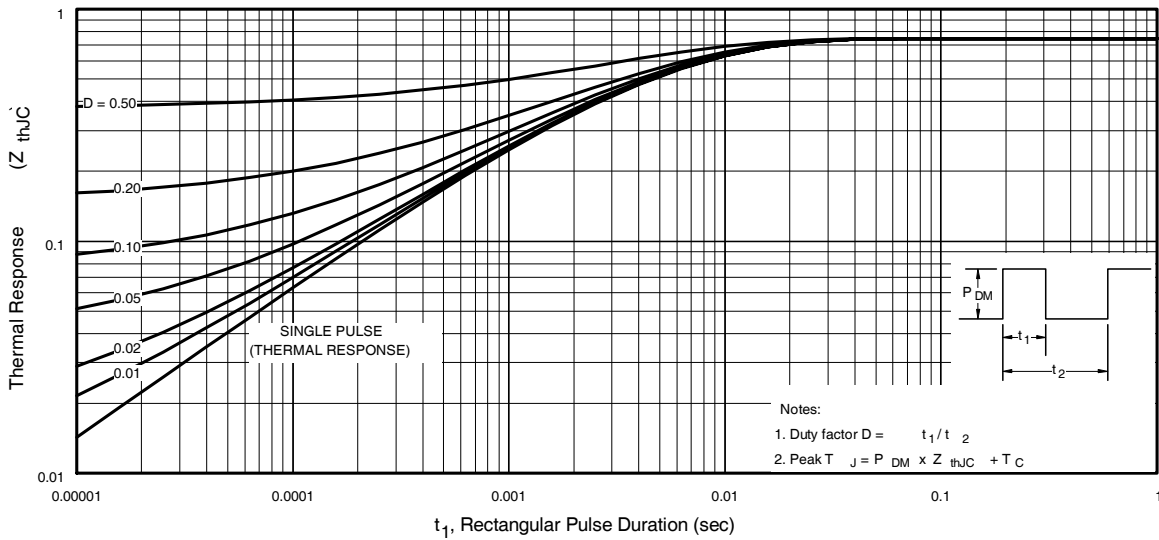

Fig 11. Maximum Effective Transient Thermal Impedance, Junction-to-Case
- ① Repetitive rating; pulse width limited by max. junction temperature. (See fig. 11)
- ② Starting T_J = 25°C, L = 0.70mH